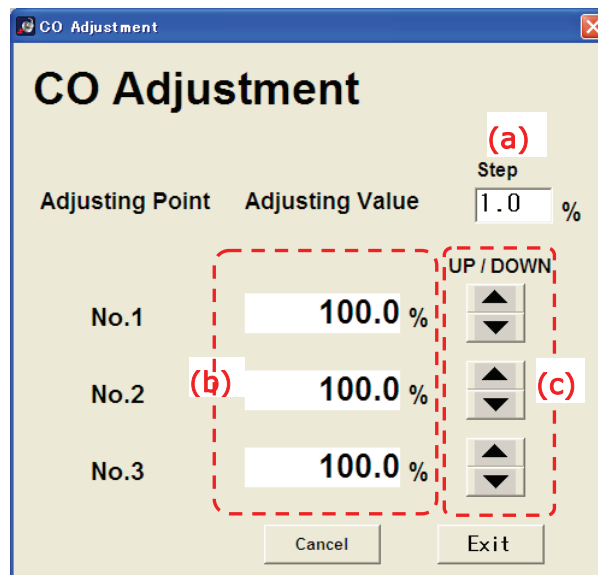

Fig. 9-4-2
Step : (Fig. 9-4-2 (a))	Shows step for incrementing or decrementing the adjustment value. Minimum step is 0.1.
Adjusting Point: (Fig. 9-4-2 (b))	Three throttle reference point (low, middle, high throttle opening) are used for CO Adjustment
Adjusting Value: (Fig. 9-4-2 (c))	Shows the adjustment value for each CO adjustment point. Default value (no compensation) is 100%.
(Fig. 9-4-2 (c)).
Using [**Step**] (Fig. 9-4-2 (a)), directly type the amount you wish to step when the up/down arrow button has been pressed once.
(5) To close and save the CO adjustment value, press the [**Exit**] button (Fig. 9-4-2).
(6) To cancel any changes to the CO adjustment dialog box, select the [**Cancel**] button (Fig. 9-4-2).